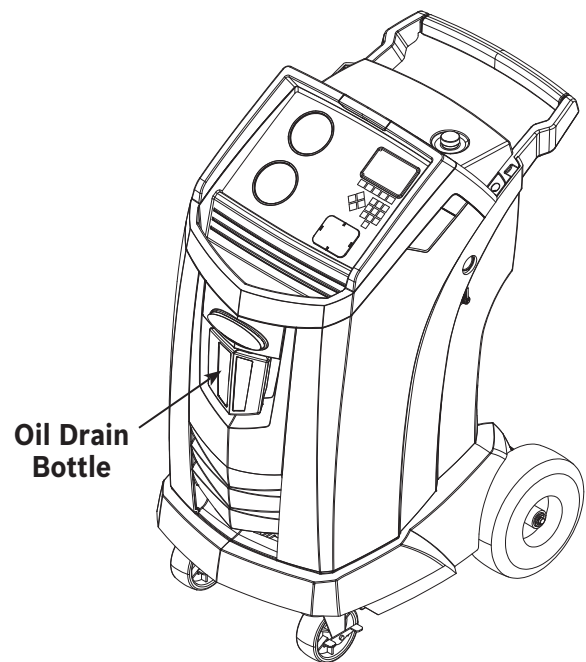

Figure 5
3. Remove the oil drain bottle (see Figure 5) from the Robinair machine. Drain the oil bottle, and dispose of the oil according to applicable regulations. Reinstall the oil drain bottle on the machine.